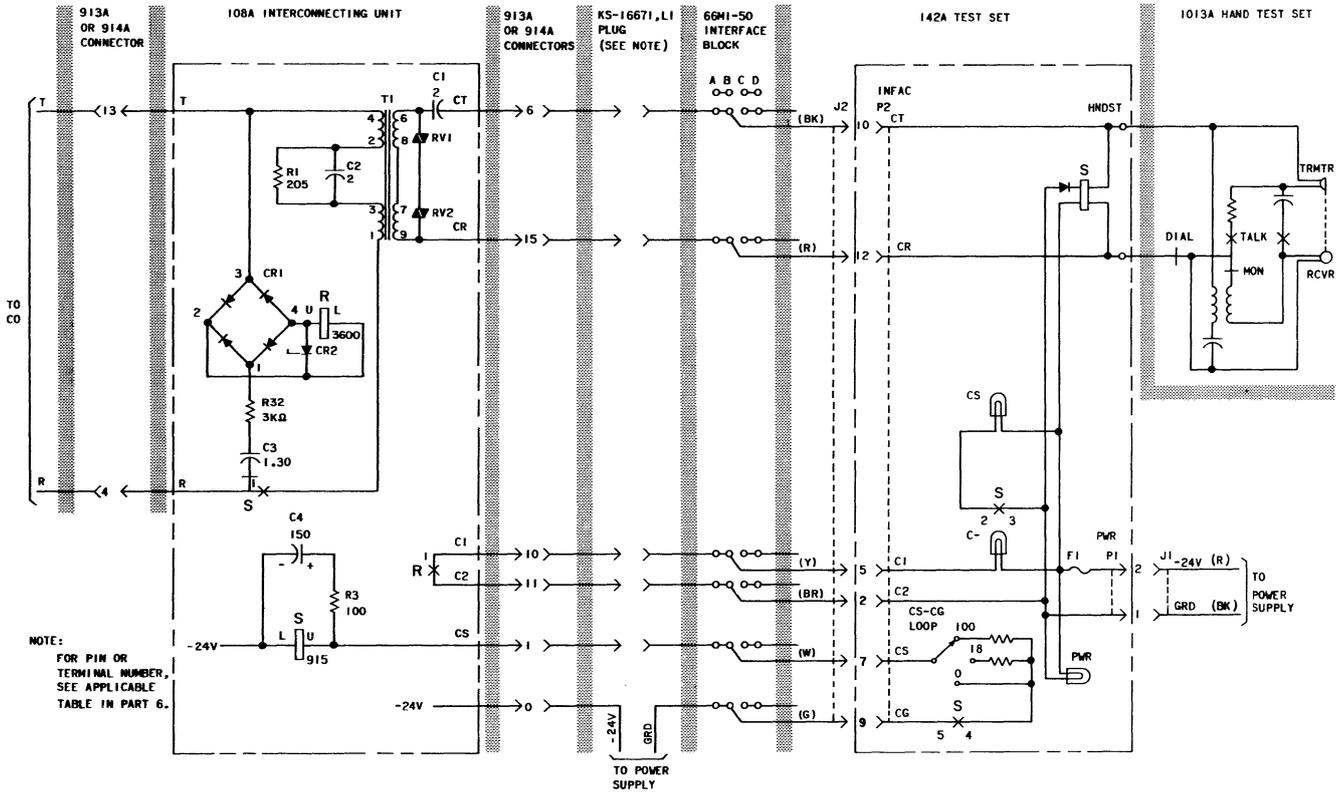

Fig. 12—Testing 108A Interconnecting Unit With 142A Test Set
**B. Using the 142A Test Set (Fig. 12)****5.04** Prepare the circuit under test as follows:
- (b) Connect the test set interface cord to the terminals on the telephone company side of the block as shown in Fig. 12. The cord required is determined by the type of block provided to terminate the interface.
- (c) Connect the leads from the 2-conductor power cord to -24 volts and ground as shown in Fig. 12. This voltage should be obtained from the same source used to power the IU under test. The PWR lamp on the test set should light.